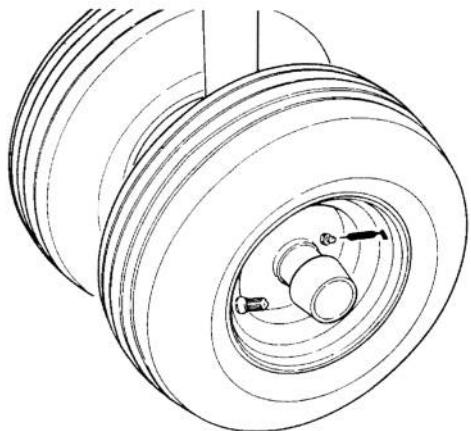
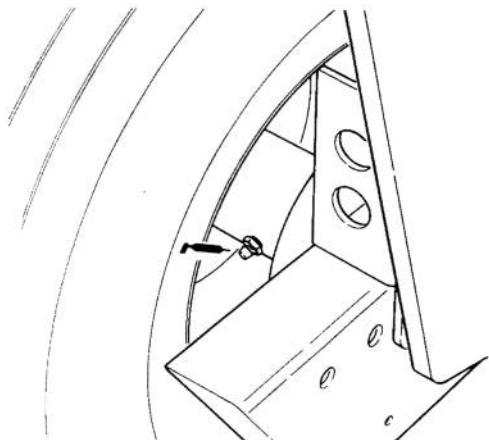
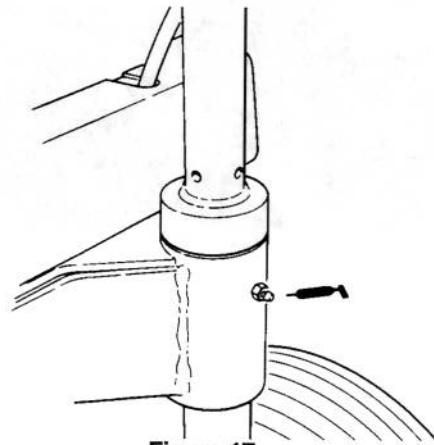

Figure 15
Figure 16
Figure 17
2. Push down on override lever until holes in lever bracket and coring head are aligned, then insert pin through holes (Fig. 15).
The bearings and bushings that must be lubricated are: front wheels (Fig. 15), rear wheel spindles (Fig. 16), front handle shaft (Fig. 17), damper pivots (4) (Fig. 18), traction roller latch pin (Fig. 19) and coring head switch (Fig. 20).